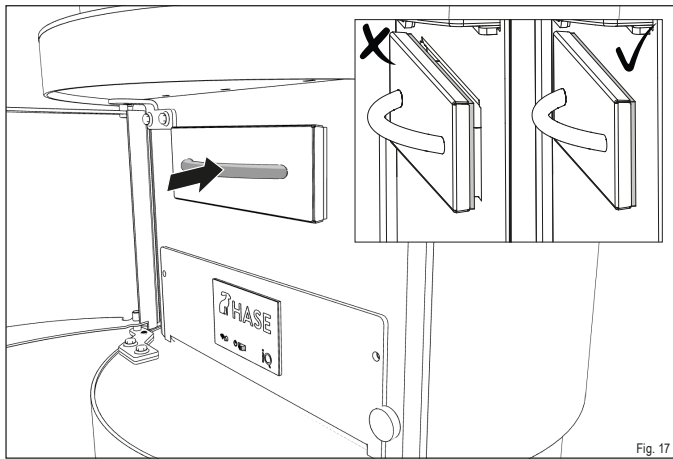

Fig. 17
When sliding in the ash drawer, ensure it is flush with the seal (Fig. 17). This ensures the burning process is not disturbed by false air.
- ✓ Slide the ash drawer back into the opening so it is flush with the seal (Fig. 17).
- ▶ Slide the ash drawer back into the opening (Fig. 17).